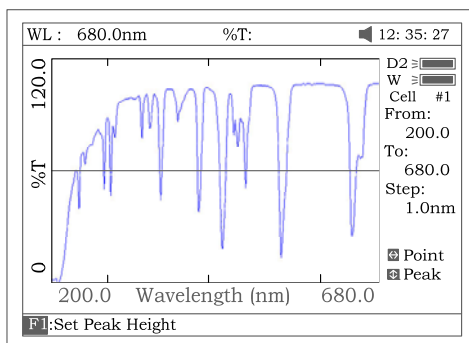

Fig 49
6. Press **[F3]** to search the Abs/%T value of the scan. There are two ways for you to search (Fig 49).